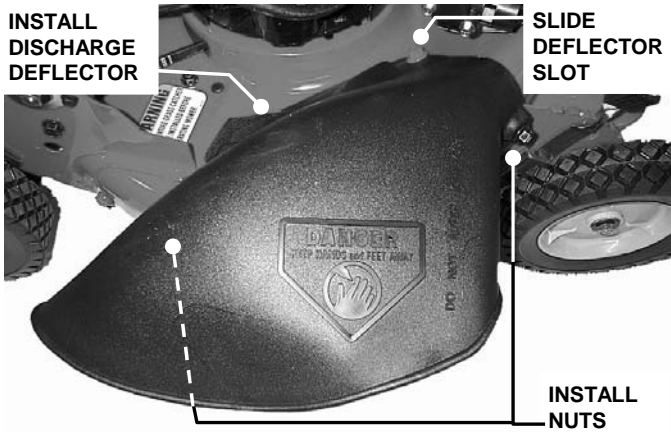

FIGURE 2.18
2. Install discharge deflector and secure to deck using hardware just removed in Step 1. Slot in front edge of discharge deflector must be under nut as shown and both bolts protruding through holes in the side of the deflector. Secure nuts to the side of deflector. Tighten nuts securely. See Figure 2.18.